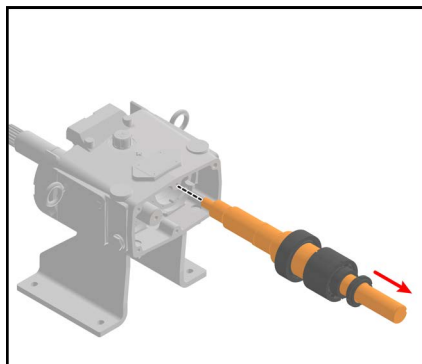

Figure 267 - Pull drive shaft out of gear case
6. Pull the drive shaft out of the gear case as shown in Figure 267